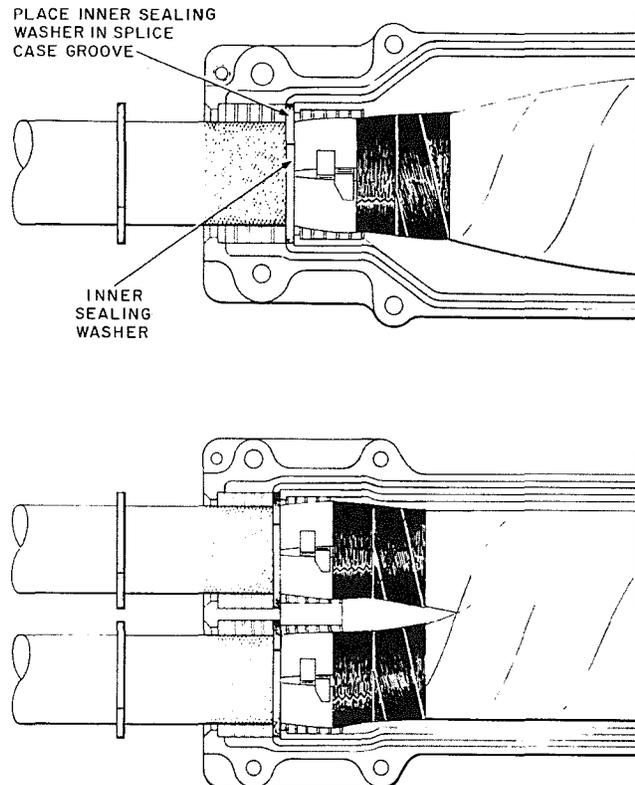

Fig. 19—Inner Sealing Washers Placed
3.18 Position the cable in the splice case and slide inner sealing washers in place as shown in Fig. 19. Mark position of washers on jacket. Make sure that the sheath clamps are aligned with the grooved seat of the splice case.